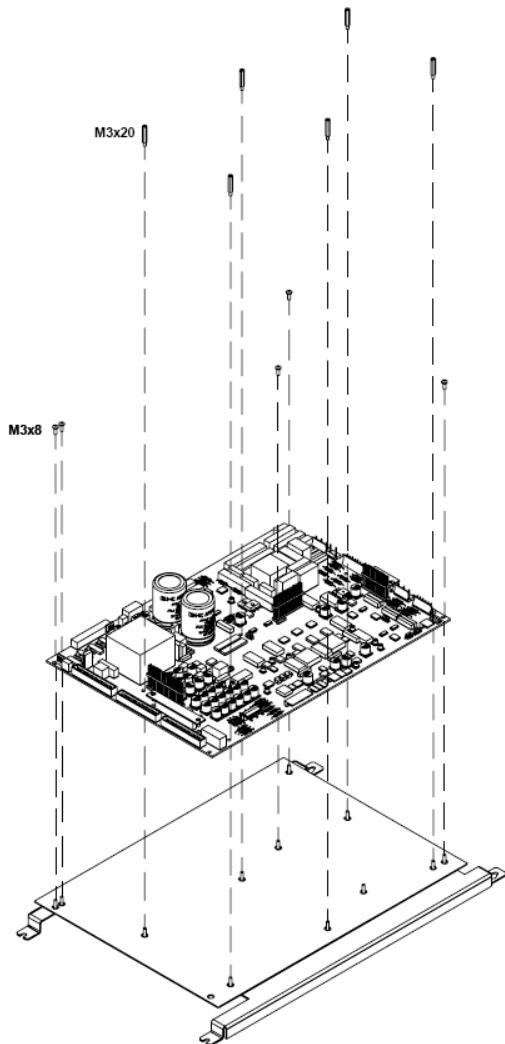

Figure 7.2.7. Disassembly of the power board
- 5) Put the board on the electronic tray, matching the bolts of the tray with the holes of the board (see figure 7.2.7)
Before proceeding, it is necessary to remove the embellishers (see section 7.2.1) and the tray where the control and power board are inserted (see figure 7.2.7).
Before removing the power connections board, you should remove the embellishers (see section 7.2.1), the tray where the control and power boards are inserted (see figure 7.2.7), the DC Bus (see section 7.2.9) and the gate drive board (see section 7.2.7).
In order to remove the single-phase choke, you should remove the embellishers (see section 7.2.1) and the tray for the boards (see figure 7.2.7) before.
It is necessary to remove the embellishers (see section 7.2.1), the tray for the boards (see figure 7.2.7) and separate the top of the chassis from the bottom (follow the steps described in section 7.2.9 and 7.2.10)
In order to remove de heatsink, first, you should remove the embellishers (see section 7.2.1), the tray for the boards (see figure 7.2.7), the gate drive board (see section 7.2.7), the DC bus (see section 7.2.8) and the power connections board (see section 7.2.9).